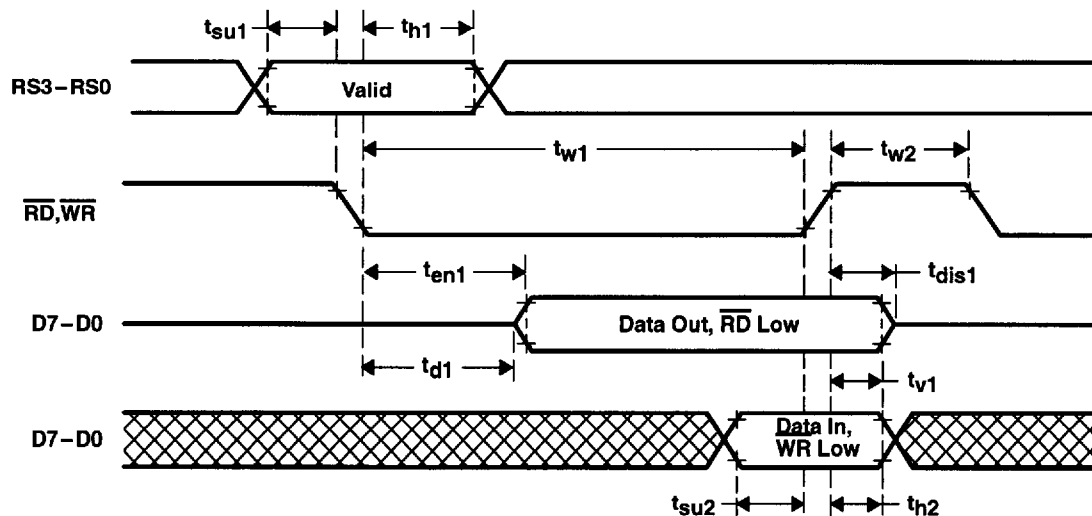

Figure 3-1. MPU Interface Timing and Switching Waveforms
3.5 Timing Requirements (see Note 5 and Figures 3-1 and 3-2)
3.5 Timing Requirements (see Note 5 and Figures 3-1 and 3-2) (continued)
3.6 Switching Characteristics (See Figures 3-1 and 3-2)
3.6 Switching Characteristics (See Figures 3-1 and 3-2) (continued)